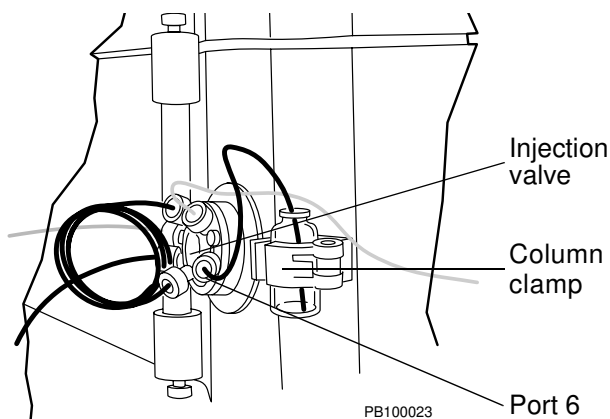

Figure 3-15 Preparing Sample for Direct Autoloader Injection
3. Place the sample vial in the top right column clamp on the workstation, next to the injection valve (Figure 3-15).